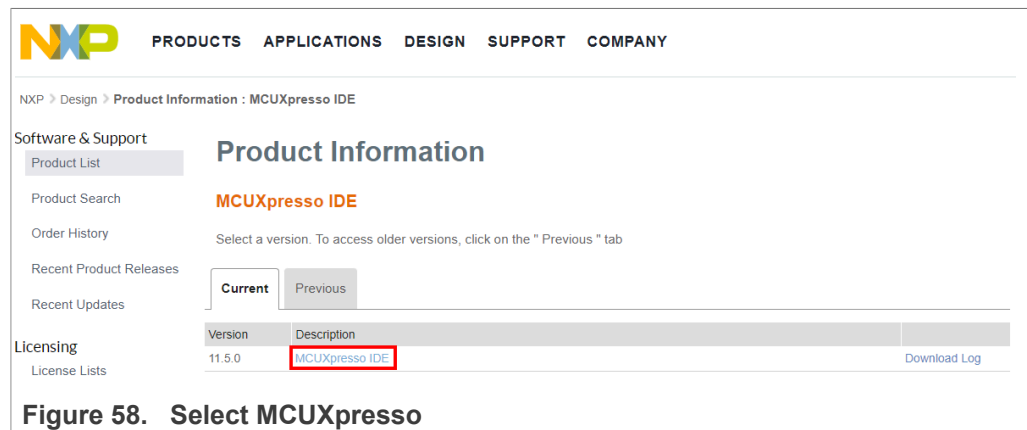

Figure 58. Select MCUXpresso
- Click on MCUXpresso IDE as shown in Figure 58: